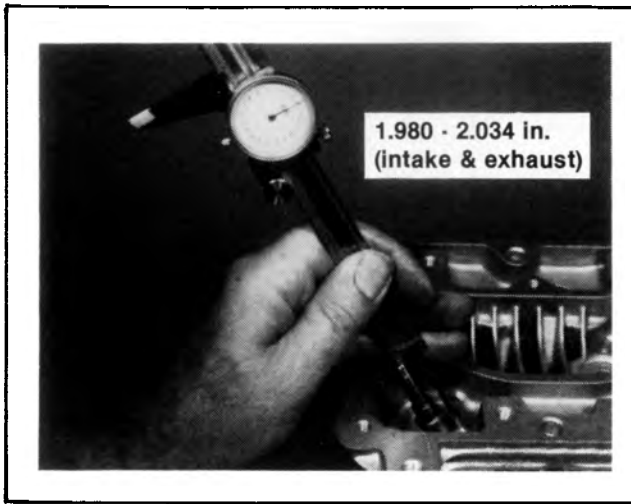

Figure 3-13. Measuring Valve Stem Protrusion
- See Figure 3-13. Measure the valve stem protrusion from the cylinder head to the top of the stem. If valve stem protrudes more than 2.034 in., the valve or seat must be replaced.
7. See Figure 3-13. If valve stem protrusion is within the proper range, the valves and seats are ready for lapping.